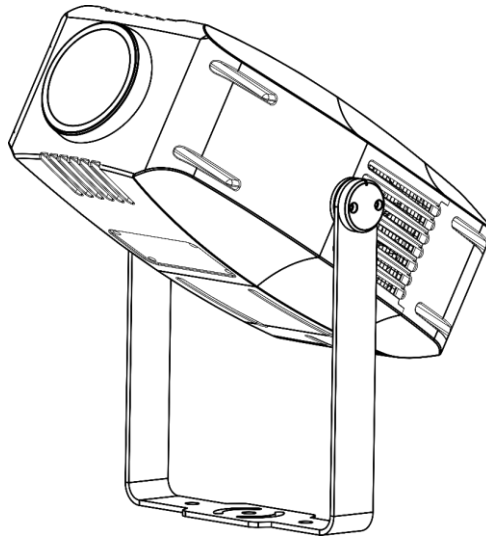

Fig. 08
- 02) Install all elements as shown in Fig. 08.